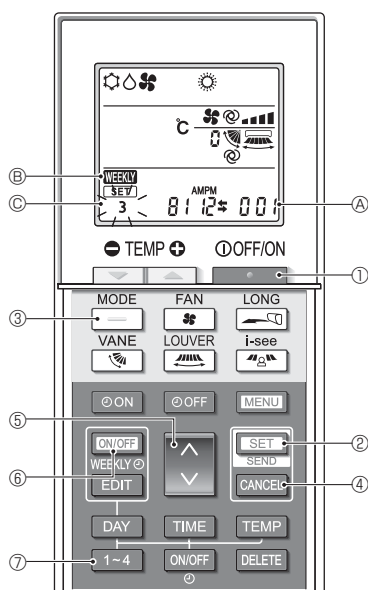
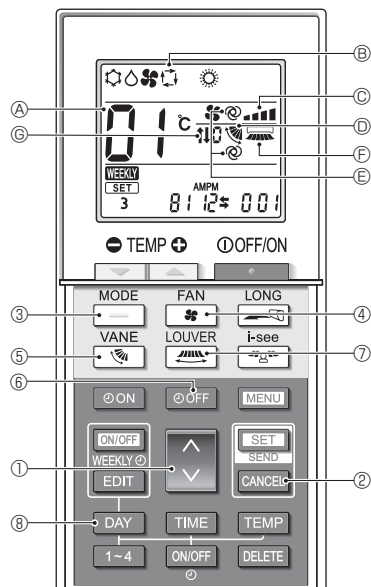

Fig. 5-1
Fig. 5-2
5.1. Switching to the function setting mode (Fig. 5-1)
- Press the **STOP** button ① to stop the air conditioner.
- If the weekly timer is enabled, press the **ON/OFF WEEKLY** button ⑥ to disable the timer. (**WEEKLY** ⑥ disappears.)
- Press the **SET** button ③ for 5 seconds.
- The remote controller enters the function setting mode. (The group model setting number ④ blinks.)
1) Operation mode setting (Fig. 5-2) (The factory setting is "Cool/Dry/Auto/Fan/Heat" [Setting number 01].)
* If the setting is incorrect, press the **CANCEL** button ② and repeat the procedure from step 1.
2) Fan speed setting (Fig. 5-2) (The factory setting is "4 speeds" [Setting number 01].)
3) Airflow direction setting (Fig. 5-2) (The factory setting is "With vane, swing" [Setting number 01].)
4) Auto fan speed and airflow direction display setting (Fig. 5-2) (The factory setting is "With auto fan speed and airflow direction" [Setting number 02].)
5) Louver display setting (Fig. 5-2) (The factory setting is "Without louver" [Setting number 01].)
1. Perform the procedure in 5.1., and then press the **1-4** button ⑦ for 5 seconds or more. (Fig. 5-1)
- The pattern number ③ blinks.
2. Press the **DAY** button ⑧. (Fig. 5-2)
- The setting number ④ comes on.
3. Press the button ① to select the setting number ④. (Fig. 5-2)
5.5. Completing the settings (Fig. 5-1)